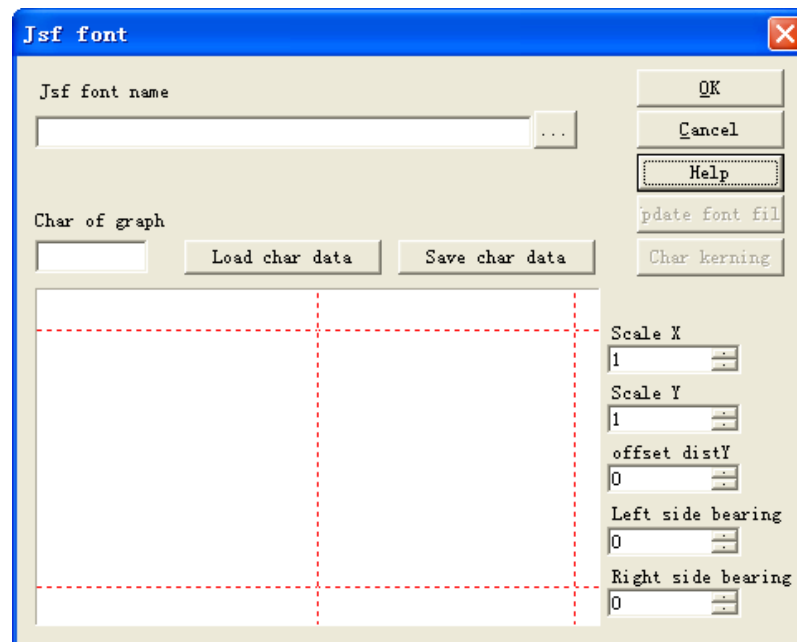

Fig 4-17 JSF font
When the user click JSF font, system will show a dialogue as figure 4-17.
Click "Modify" "JSF Fonts", then shown a font dialogue box as figure 4-17. Click button , and find ezcad2\font catalogue in the dialogue, input "EZCAD0521", and then click the button to indicate dialogue as the follow figure 4-23.
1. Click "JSF fonts" under "modify" menu, then shown the JSF font dialogue, as the figure 4-17->Click , open the dialogue to find the route: ezcad2\font->Input “EZCAD0521”--